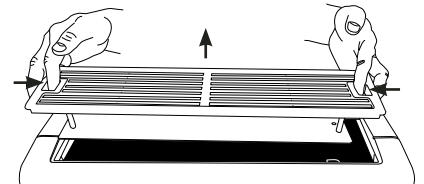

Figure 6
2. Using index fingers, squeeze the locking tabs (figure 6) inwards towards the center of the grill. Lift the grill up and remove.